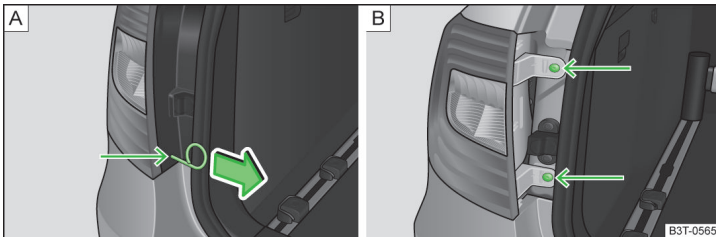

Fig. 206 Removing: Cover/light
- Insert the clamp for removing the wheel trims » page 201, *Vehicle tool kit* into the hole at the position indicated by the arrow » Fig. 206 - [A].
- Remove the cover in the direction of the arrow » Fig. 206 - [A].
- Use the screwdriver from the tool kit to unscrew the lamp » Fig. 206 - [B].